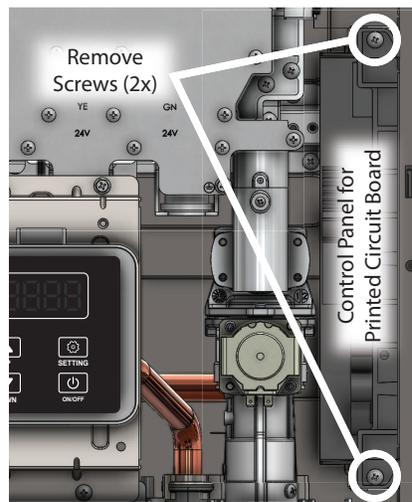

Figure 42 - Control Panel Location
- 4** Remove the two screws (top and bottom) securing the control panel to the Parent water heater. The control panel is located on the bottom right side of the water heater as shown in Figure 42.